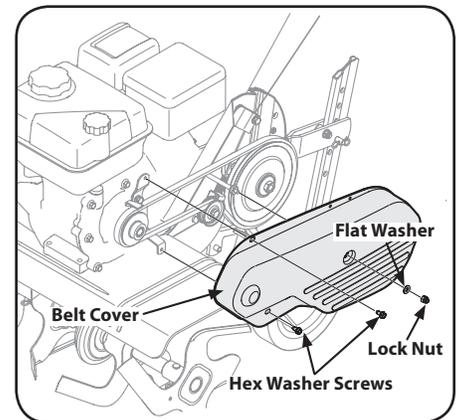

Figure 5-2
2. Remove the belt cover from the left side of the tiller by removing the two self-tapping screws and hex stop nut and washer. See Figure 5-2.